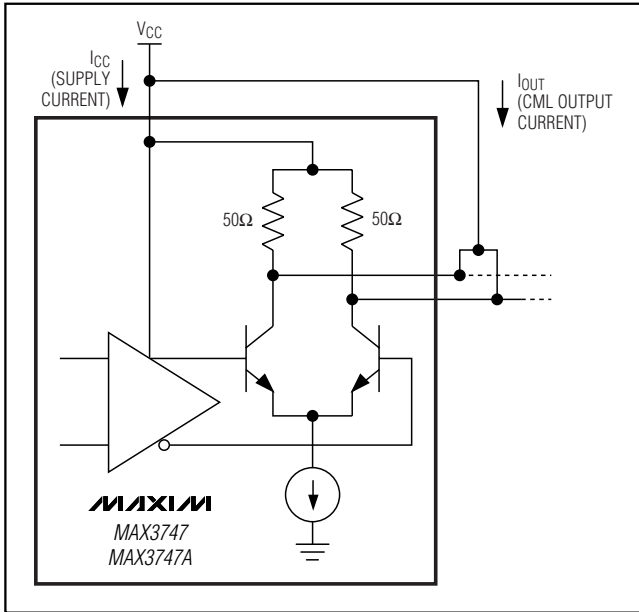

Figure 1. Power-Supply Current Measurement
**Note 2:** Supply current is measured with unterminated outputs or with AC-coupled output termination (see Figure 1).
**Note 5:** The deterministic jitter (DJ) caused by the input filter is not included in the DJ generation specification.